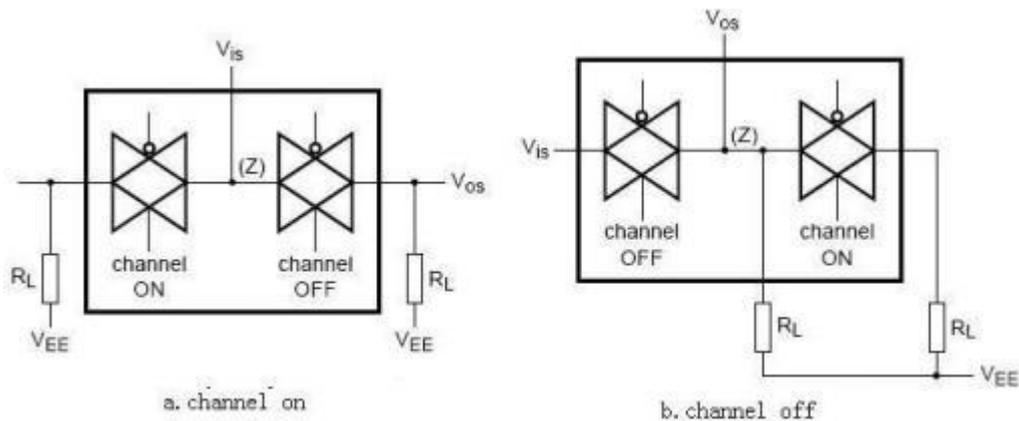

Figure 8. Inter channel Crosstalk
- [2]  $R_L=1k\Omega$ ;  $20\log V_{os}/V_{is}=-50dB$ , see Figure 8.